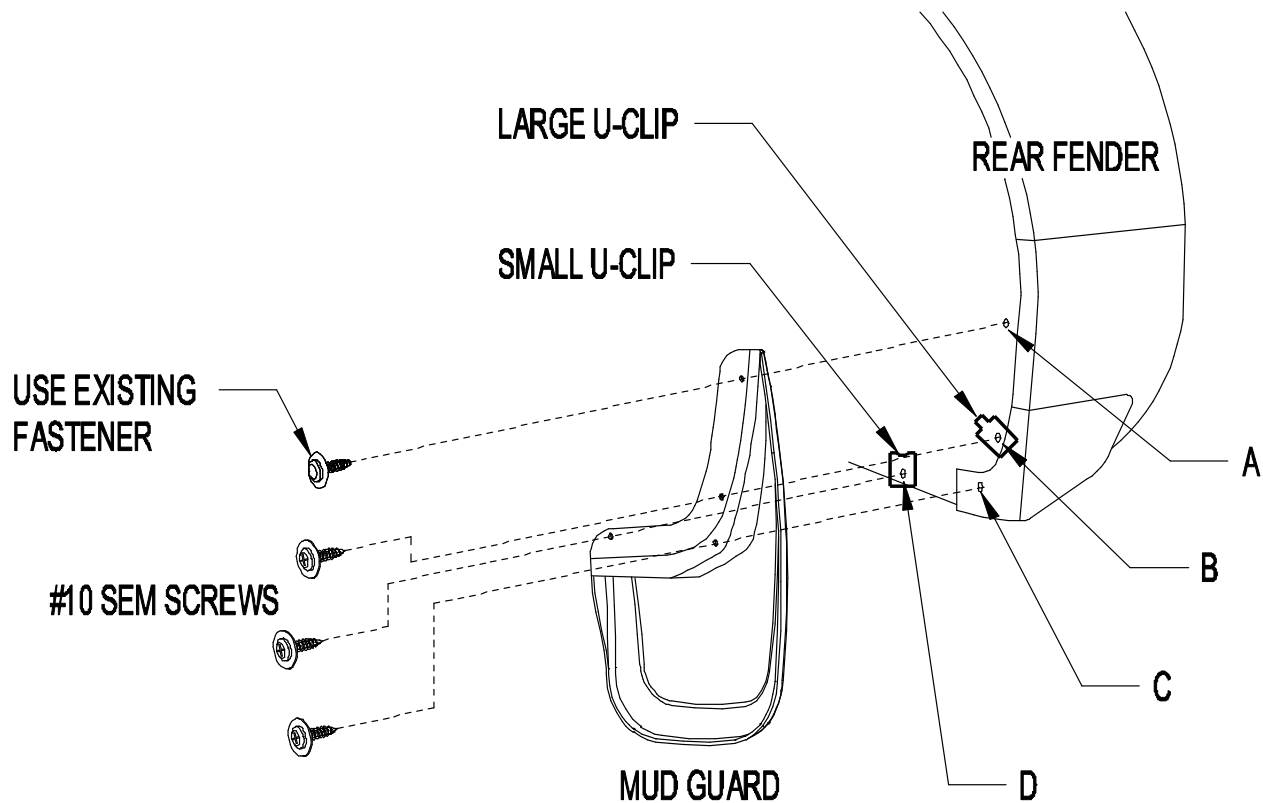

Figure 1
1. Remove the existing fasteners from locations A and B (Figure 1).
5. Install a #10 SEM Screw at location C (Figure 1).